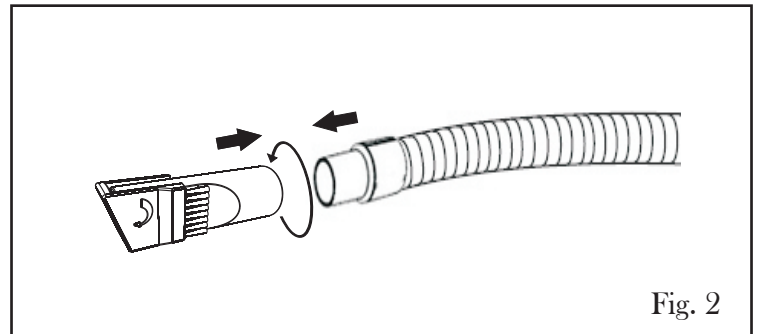

Fig. 2
3. Connect the hose to the 2-in-1 nozzle or T-nozzle (Fig. 2).